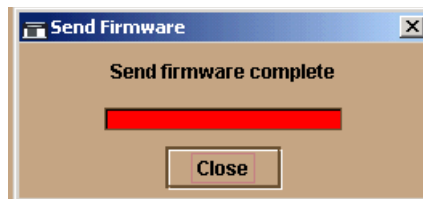

Figure 4-132 The firmware download progress menu
- ▶ After the IPL, a *Synchronizing CTPs* message displays. This message remains as files are transmitted to the second CTP card and the progress bar travels across the window to 100%. When the download reaches 100%, a *Send firmware complete* message is displayed as shown in Figure 4-132.